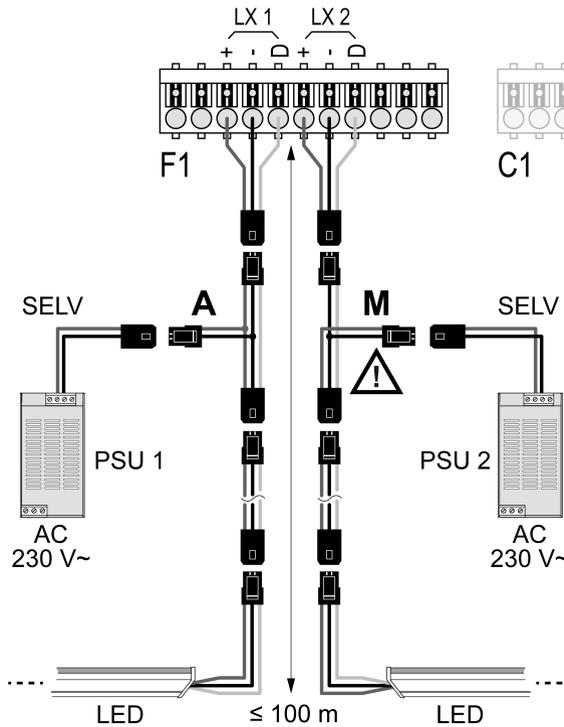

Figure 6: Connecting LEDTRIX bus 1 and 2
- Connect the LEDTRIX bus 1 and 2 as shown (Figure 6):